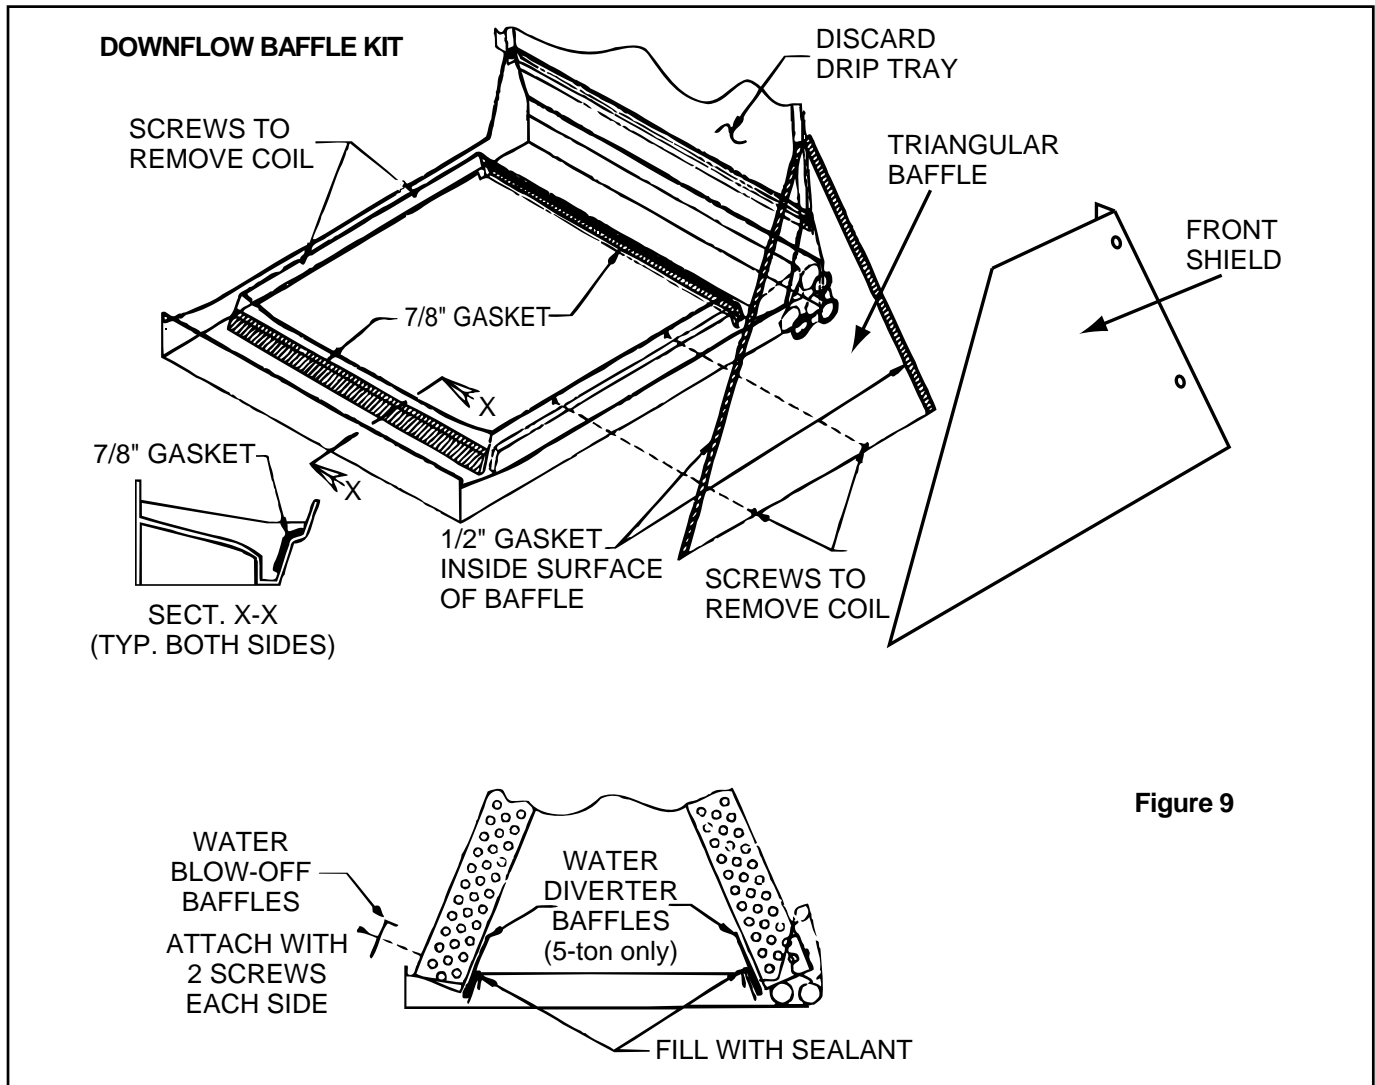

Figure 9
NOTE: Installation of the downflow baffle kit included with unit is required on downflow applications. See Figure 9.
- c. Remove front shield by removing screws on right side. Make sure to reinstall front shield after baffle changes. See Figure 9.
- d. Detach the coil from the drain pan by removing 4 screws as shown in Figure 9.
- e. Remove the front triangular baffle from the coil and install the 1/2" wide gasket provided per Figure 9. Trim the gasket length to fit the baffle. Reinstall the baffle to coil, with gasket material compressed against the coil.
- f. Install the water blow-off baffles provided on each side of the coil with the flange at the top as shown in Figure 9. The bottom of the baffle is to be as close to the bottom of the coil as possible.
- g. Install the 7/8" wide gasket in each side of the drain pan as shown in Figure 9 (sect. X-X).
- h. The 5 ton model (2/4TEE3D65) requires 2 water diverter baffles to be placed underneath the coil on the inside edge of the drain pan. See Figure 9. Fill the bend in the baffle which fits the inner edge of the drain pan with non-acetic acid RTV type adhesive/sealant before installing the baffle.
- b. **For maximum efficiency**, remove the factory installed baffle assembly from the apex of the coil by using a nutdriver to remove the 5/16" hex head screw. For the TEE3F40-65 units, there is a coil support tab at the top of the coil connected to the case must be removed first. Replace this baffle with the factory supplied narrow coil baffle using the screws removed previously. See Figure 9.